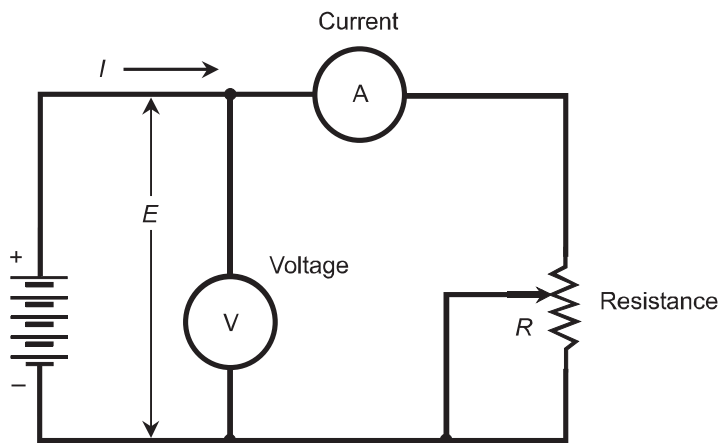

Fig. Test1-2. Illustration for Part One Test Questions 18 through 20.
18. Examine Fig. Test1-2. Suppose the battery supplies a voltage $E = 6$ V DC, and the current $I = 2$ A. What is the resistance R ?
19. In Fig. Test1-2, suppose the resistance $R = 120 \ \Omega$ and the current $I = 100$ mA. What is the battery voltage?
20. In Fig. Test1-2, suppose the voltage across the resistor is 18 V. What is the current flowing through ammeter A?